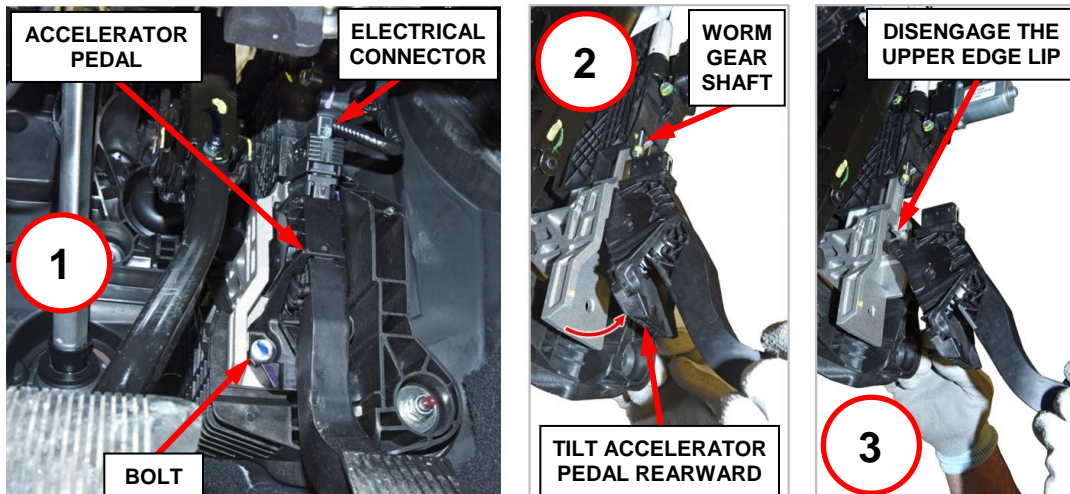

Figure 3 – Remove Accelerator Pedal to Expose Worm Gear Shaft
3. Disconnect the electrical connector from the accelerator pedal (Figure 3).
4. Remove the one bolt securing the accelerator pedal (Figure 3).
5. Tilt the accelerator pedal to release, then remove the pedal (Figure 3).